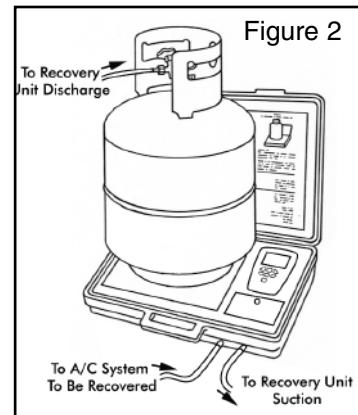

Figure 2
- 7) Now place the cylinder on the scale platform as shown in Figure 2. **Caution: It is very important not to place the cylinder on the platform before this step. Failure to do so could lead to overfilling a refrigerant cylinder.**